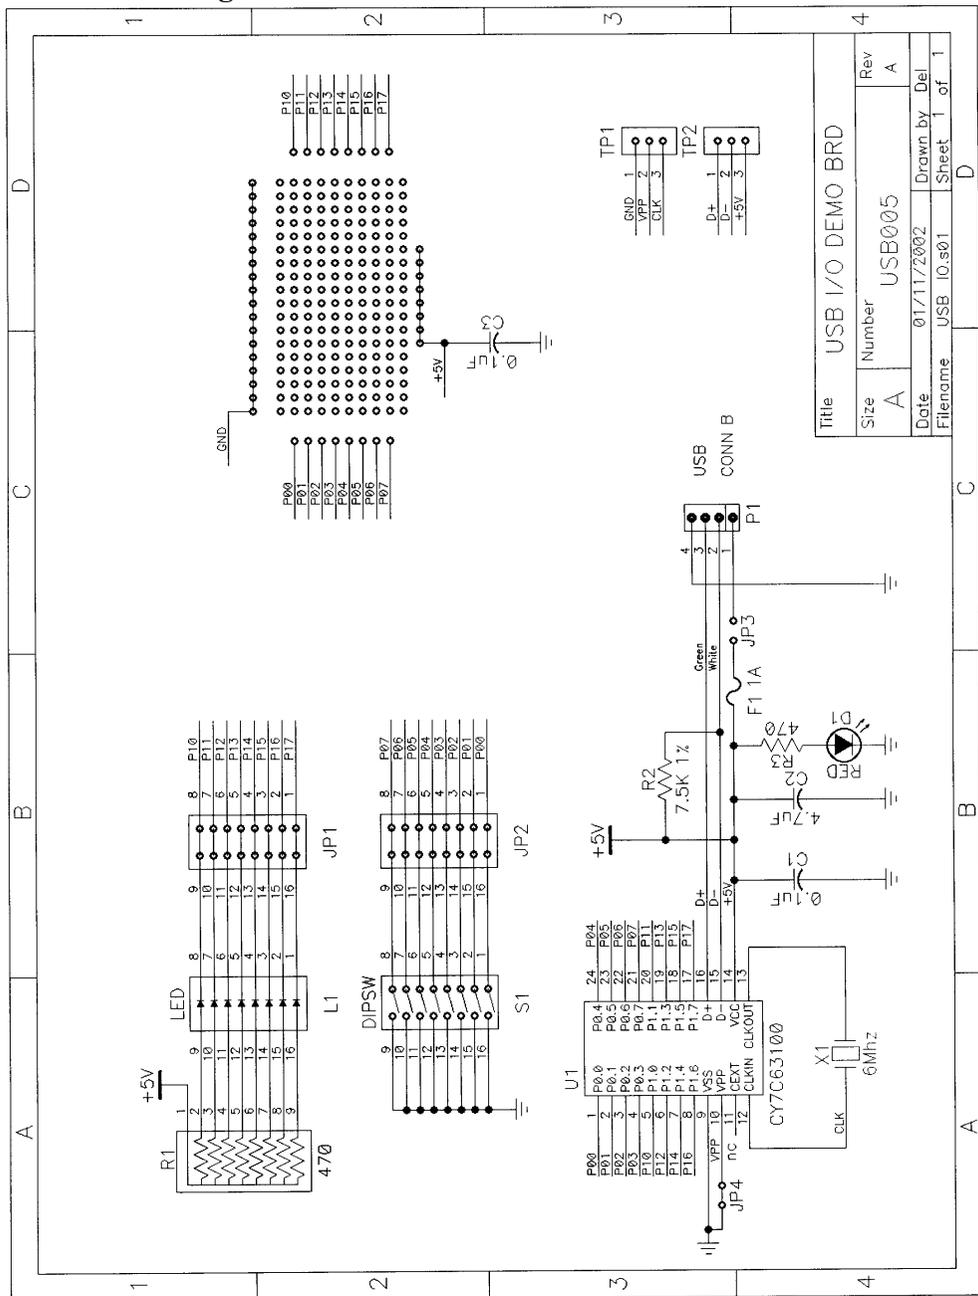

Figure 5.1
- 5.1 Figure 5.1 Schematic**
5.1 Figure 5.1 Schematic